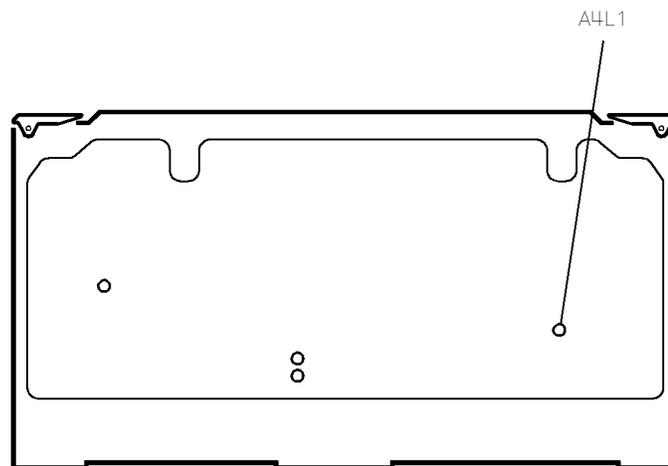

Figure 3-4. A4L1 Location
4. Using a non-metallic tool, adjust A4L1 (see Figure 3-4) to center the needle on the display.